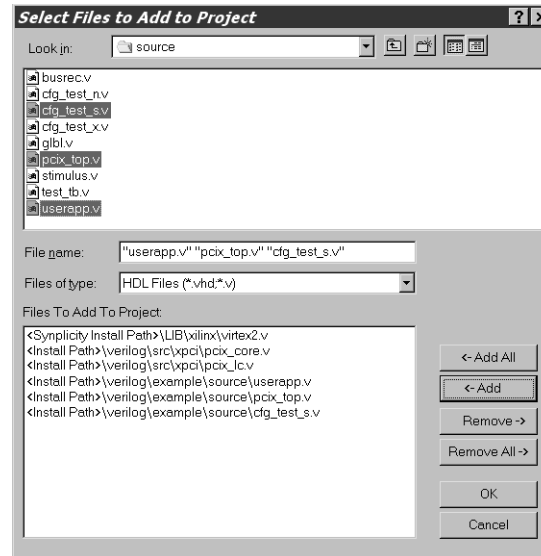

Figure 5-5: Files to Add (User Application)
- Navigate to the source directory (Figure 5-5), select the `cfg_test_s.v`, `pcix_top.v`, and `userapp.v` files, and then click Add.